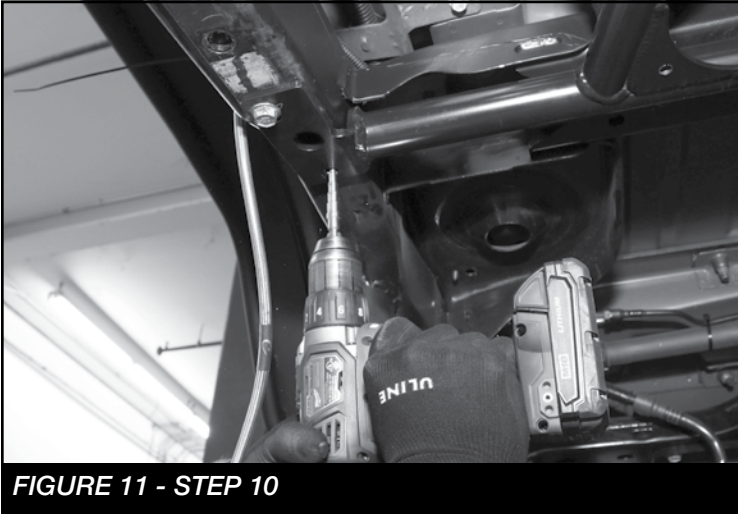

FIGURE 11 - STEP 10
10. Locate the area where the sub-frame is mounted to the frame at the old sway bar location. The forward hole will need to be drilled out to 7/16". Repeat on Passenger side. **SEE FIGURE 11**